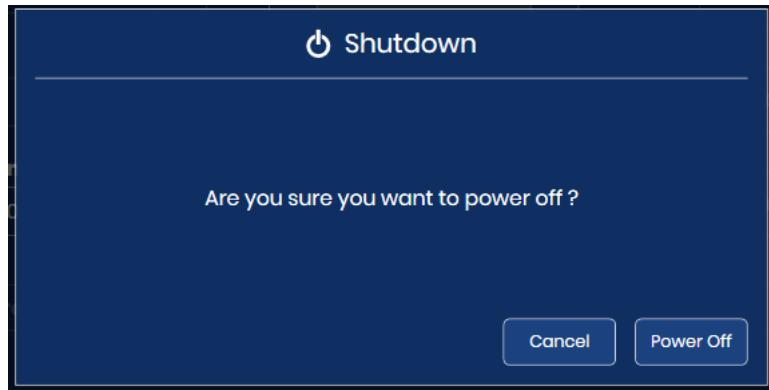

Figure 1-4-24 Confirm shutdown
4. Select Power Off on the confirmation screen to continue with shutdown. (See Figure 1-4-24).